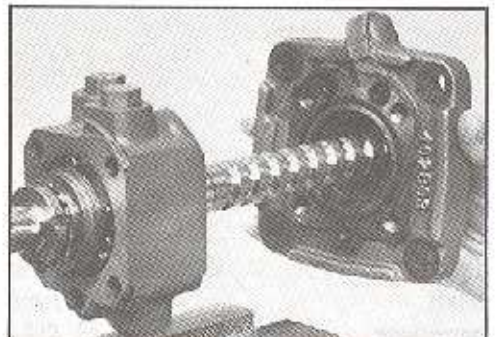

Figure 119
15. Assemble the adaptor (20) onto the rack piston end of worm shaft (25A) assembly with the side with four threaded holes against the face of the valve assembly and the poppet adjusting screw holes and cylinder feed holes in adaptor and valve body aligned (18). SEE FIGURE 119.